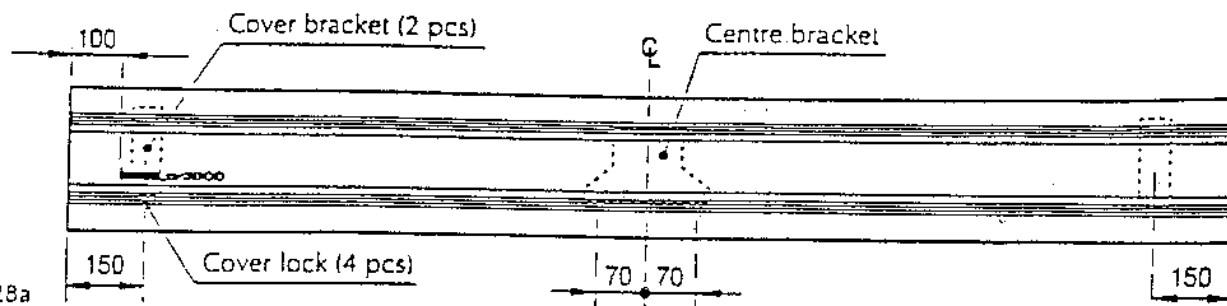

Fig. 28a
2. The cover is fixed by means of pre-mounted spring-loaded cover locks. The cover locks are slid over a special flange in the lower part of the cover and positioned as indicated in figs. 28a/28b.